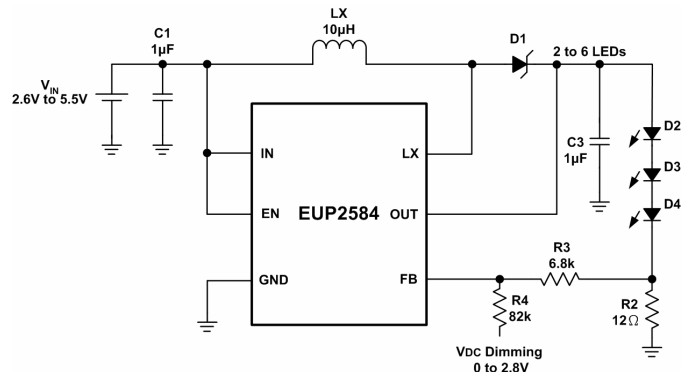

Figure 4. Dimming Control Using a DC Voltage
Using a variable DC voltage to adjust the brightness is a popular method in some applications. The dimming control using a DC voltage circuit is shown in Figure 4. According to the Superposition Theorem, as the DC voltage increases, the voltage contributed to V_{FB} increases and the voltage drop on R2 decreases, i.e. the LED current decreases. For example, if the V_{DC} range is from 0V to 2.8V, the selection of resistors in Figure 4 sets dimming control of LED current from 20mA to 0mA.
Figure 7 is another application of EUP2584 for backlight and keypad. Setting the divider-resistors (R1 & R2) is to get a constant output voltage that depends on the forward voltage and the numbers of series-LEDs. It can turn on backlight of main panel and keypad at the same time. Applying different duty cycle of PWM signal above 22kHz to the backlight's switch can also control the brightness of main panel's backlight. The keypad's backlight will keep the same brightness during the dimming control of main panel. Otherwise the brightness of keypad's s backlight can also change during the dimming control of main panel by using the application circuit as figure 4. The following formula (5)(6) can determine the resistors of Figure 8.